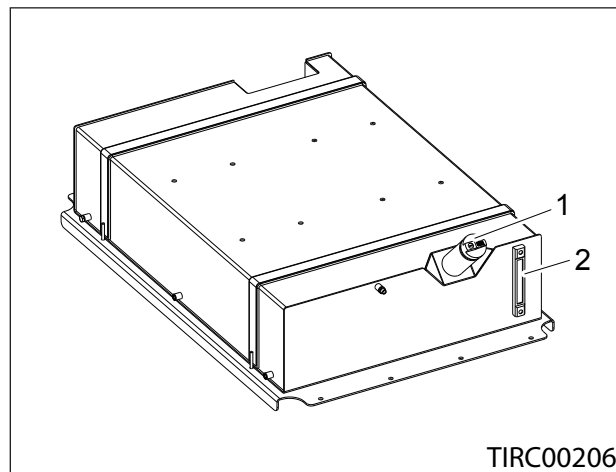

Figure 9.1 - Fuel Tank
2. Check the level indicator (item 2), Ref: Figure 9.1.
4. Remove the filler cap (item 1), Ref: Figure 9.1.
7. Replace the filler cap (item 1), Ref: Figure 9.1.